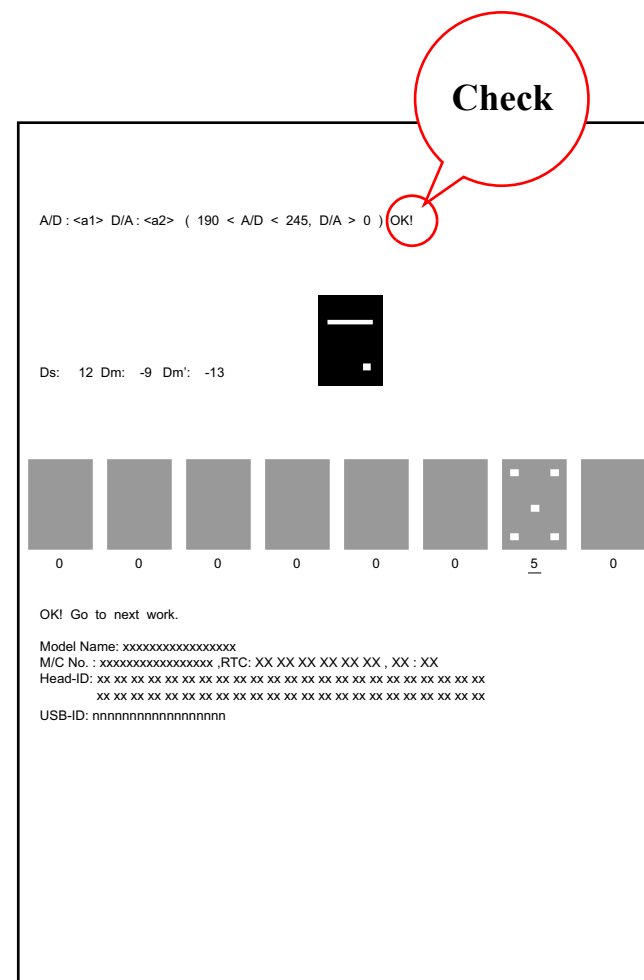

Figure 5-61. Adjustment Pattern
4. See the printed pattern and check the pattern in the position shown in the Figure 5-61.